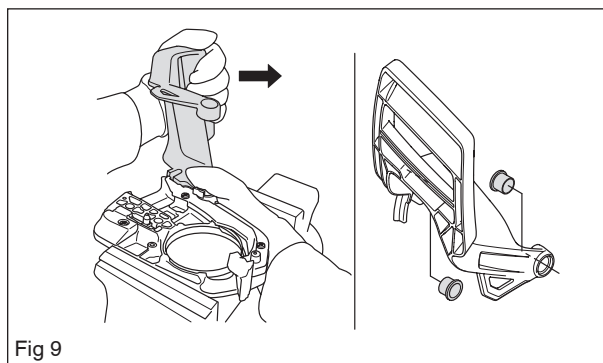

Fig 9
4. Tighten the brake by using the saw's hand guard as a tool. Mesh with the brake and tighten clockwise until the brake is in the off position. See figure 9.
NOTE! Make sure the bushings in the kickback guard's attachments are kept in place from the inside. See figure 9.